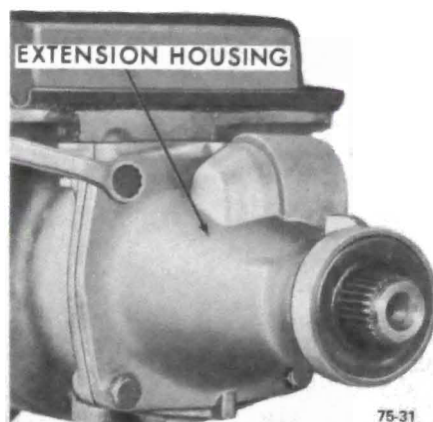

Figure 75-57
ometer driven gear from side of extension housing and remove four (4) extension housing to case attaching bolts. See Figure 75-57.